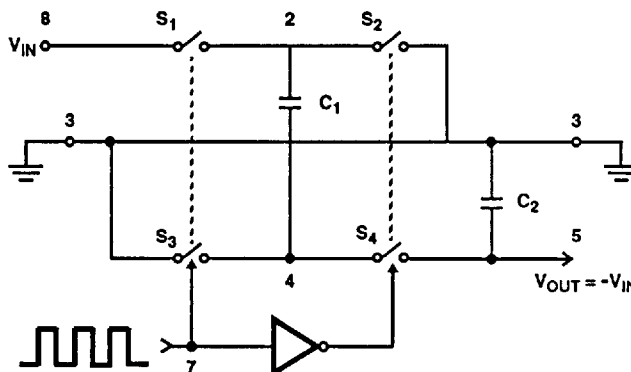
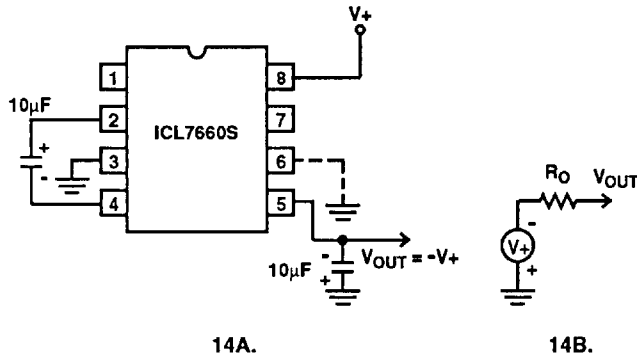
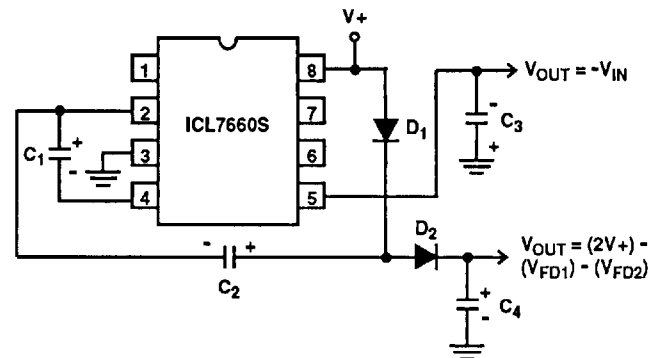

FIGURE 13. IDEALIZED NEGATIVE VOLTAGE CONVERTER
FIGURE 14. SIMPLE NEGATIVE CONVERTER AND ITS OUTPUT EQUIVALENT
FIGURE 21. COMBINED NEGATIVE VOLTAGE CONVERTER AND POSITIVE DOUBLER
The ICL7660S contains all the necessary circuitry to complete a negative voltage converter, with the exception of 2 external capacitors which may be inexpensive 10 $\mu$ F polarized electrolytic types. The mode of operation of the device may be best understood by considering Figure 13, which shows an idealized negative voltage converter. Capacitor  $C_1$  is charged to a voltage,  $V_+$ , for the half cycle when switches  $S_1$  and  $S_3$  are closed. (Note: Switches  $S_2$  and  $S_4$  are open during this half cycle.) During the second half cycle of operation, switches  $S_2$  and  $S_4$  are closed, with  $S_1$  and  $S_3$  open, thereby shifting capacitor  $C_1$  to  $C_2$  such that the voltage on  $C_2$  is exactly  $V_+$ , assuming ideal switches and no load on  $C_2$ . The ICL7660S approaches this ideal situation more closely than existing non-mechanical circuits.
In the ICL7660S, the 4 switches of Figure 13 are MOS power switches;  $S_1$  is a P-Channel devices and  $S_2$ ,  $S_3$  and  $S_4$  are N-Channel devices. The main difficulty with this approach is that in integrating the switches, the substrates of  $S_3$  and  $S_4$  must always remain reverse biased with respect to their sources, but not so much as to degrade their "ON" resistances. In addition, at circuit start up, and under output short circuit conditions ( $V_{OUT} = V_+$ ), the output voltage must be sensed and the substrate bias adjusted accordingly. Failure to accomplish this would result in high power losses and probable device latchup.
where  $V_1$  and  $V_2$  are the voltages on  $C_1$  during the pump and transfer cycles. If the impedances of  $C_1$  and  $C_2$  are relatively high at the pump frequency (refer to Figure 13) compared to the value of  $R_L$ , there will be substantial difference in the voltages  $V_1$  and  $V_2$ . Therefore it is not only desirable to make  $C_2$  as large as possible to eliminate output voltage ripple, but also to employ a correspondingly large value for  $C_1$  in order to achieve maximum efficiency of operation.
The majority of applications will undoubtedly utilize the ICL7660S for generation of negative supply voltages. Figure 14 shows typical connections to provide a negative supply where a positive supply of +1.5V to +12V is available. Keep in mind that pin 6 (LV) is tied to the supply negative (GND) for supply voltage below 3.5V.
The output characteristics of the circuit in Figure 14 can be approximated by an ideal voltage source in series with a resistance as shown in Figure 14B. The voltage source has a value of  $-V_+$ . The output impedance ( $R_O$ ) is a function of the ON resistance of the internal MOS switches (shown in Figure 13), the switching frequency, the value of  $C_1$  and  $C_2$ , and the ESR (equivalent series resistance) of  $C_1$  and  $C_2$ . A good first order approximation for  $R_O$  is:
Figure 21 combines the functions shown in Figure 14 and Figure 20 to provide negative voltage conversion and positive voltage doubling simultaneously. This approach would be, for example, suitable for generating +9V and -5V from an existing +5V supply. In this instance capacitors  $C_1$  and  $C_3$  perform the pump and reservoir functions respectively for the generation of the negative voltage, while capacitors  $C_2$  and  $C_4$  are pump and reservoir respectively for the doubled positive voltage. There is a penalty in this configuration which combines both functions, however, in that the source impedances of the generated supplies will be somewhat higher due to the finite impedance of the common charge pump driver at pin 2 of the device.